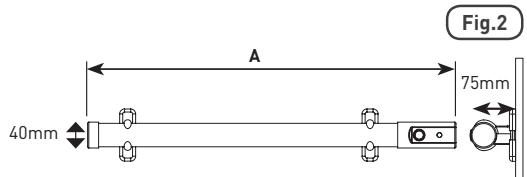

Fig.2
- Dimensions of the heaters are shown in [Fig.2].